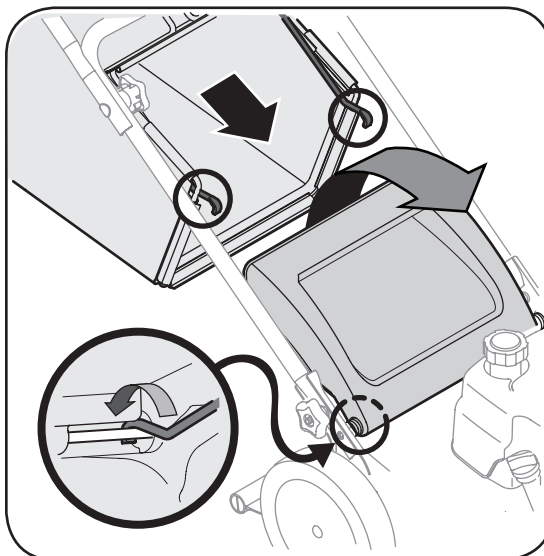

Figure 3-6
- a. On the side of the mower deck, lift the hinged mulching plug. See Figure 3-6.